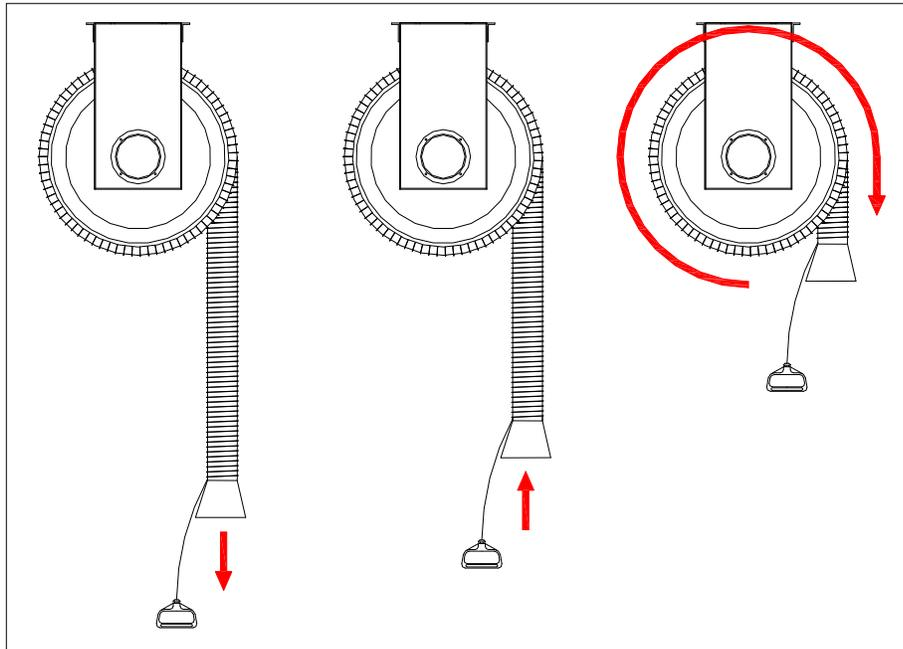

FIG4 - TENSION ADJUSTMENT PROCEDURE <INCREASE>
- a. To increase tension, pull the hose down at least 10' and let the hose retract slightly until the lock engages. With the reel locked into place, loop the 10' of hose around the drum. You will need to remove the adjustable hose stop and may also need to remove the exhaust adapter. Repeat this procedure until reel retracts hose slowly to desired height. See FIG4 for adjustment illustration.